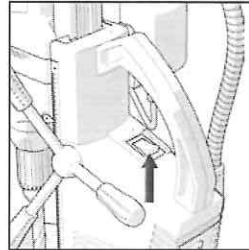

Fig. 5
- Operate the black motor switch located on the top of the machine. (**Fig. 5**)
- Start the motor by selecting the ON position of the BLACK switch, located on top of the machine. **(refer to Fig.5)**